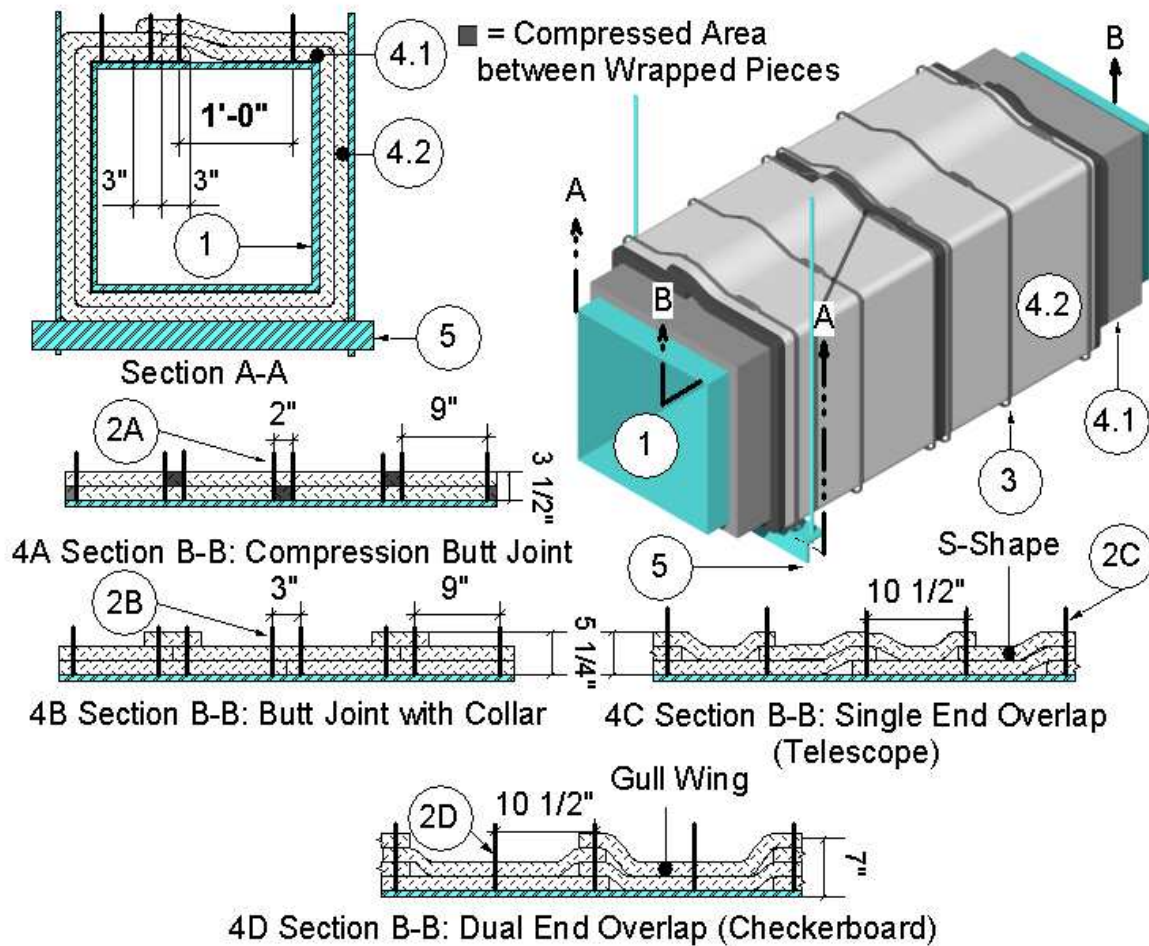

Figure 1
2. FASTENERS: Refer to Figure 1. Weld minimum 12 GA, 6-1/2-inch long, copper-coated, steel insulation pins or 12 GA, insulated cup head steel pins to the grease duct (Item 1). Match the following fastener method with corresponding insulation (Item 4) method.
INSULATION: Apply the non-combustible (ASTM E136) and durable (ASTM C518) insulation in two layers of nominal 1-1/2-inches thick, 6-pcf density blanket, made of calcium-, silica-, and magnesium-oxide (CSM) fibers, encapsulated with polypropylene-foil or aluminized polyester-foil scrim over the entire surface of the grease duct (Item 1). Apply the inner first layer (Figure 1, 4.1) in accord with one of the four methods (A, B, C, or D) that follow. Offset the second outer layer (Figure 1, 4.2) one half the width of the inner first layer (Figure 1, 4.1) so that the joints of the inner first layer (Figure 1, 4.1) are covered by and approximately in the center of the second outer layer (Figure 1, 4.2). Apply the second outer layer (Figure 1, 4.2) in accord with the same method selected for the first inner layer (Figure 1, 4.1). Use blanket, available in various widths, that is fully encapsulated or single faced with a polypropylene-foil or polyester-foil scrim. Expose a foil-faced